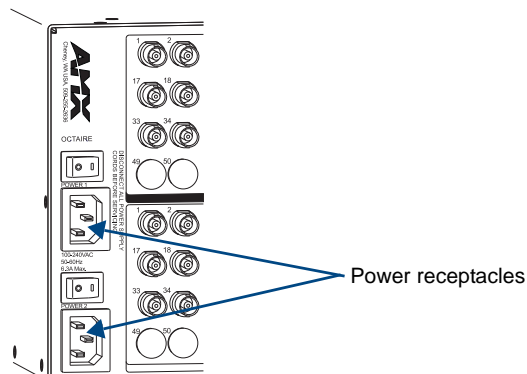

FIG. 20 Plug power cords into power receptacles
- Plug power cords into the power receptacles on the enclosure (repeat for additional enclosures in multi-enclosure systems). Press the “I” side of both power switches on each enclosure (FIG. 20).